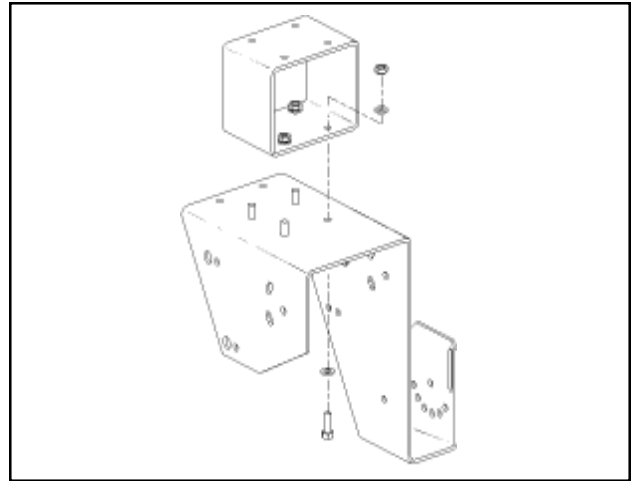
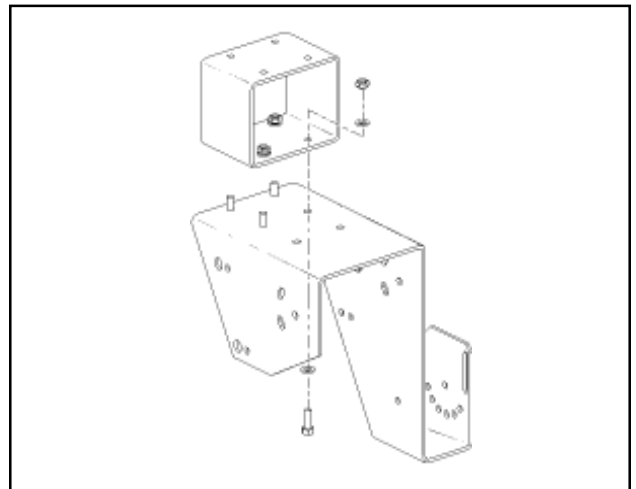

Figure 3 - "IN" Mounting Position
Figure 4 - "OUT" Mounting Position
- 1) Install the extend outboard bracket - Using the M6 washers, lock washers, nuts and screws provided with this kit attach the extend outboard bracket as shown in figure 3 or figure 4.
Note: For applications where the Extended Outboard Bracket is not used the Main Outboard Bracket is attached directly to the Case sealer using the same fastener locations shown in figures 3 & 4.